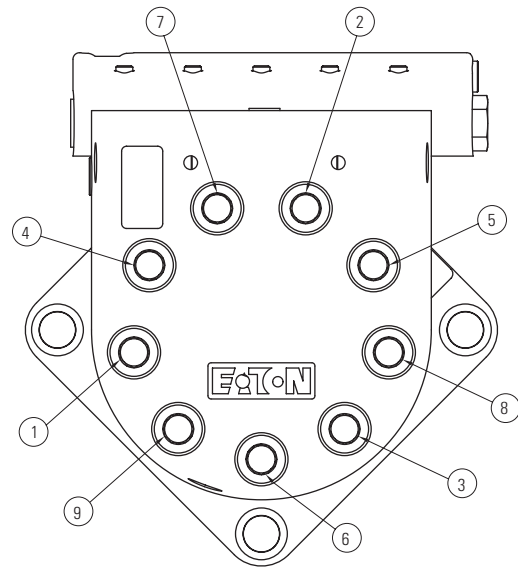

Figure 14
- 9.3.7 Install nine cap screws lubricated with DTE-26. Pre-torque each in a crisscross pattern (see Figure 14) to 80+/-10 lb-ft. Finally, in a crisscross pattern, tighten screws to 105+/-5 lb-ft.